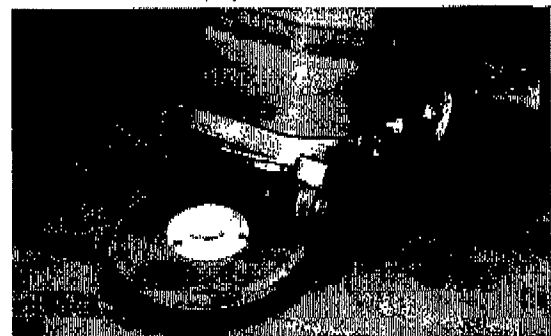

FIG. 12
4. Place the pad driver/brush on the floor in front of the scrub head (Figure 12).
5. Tilt the machine back on its rear wheels and center the scrub head down over the pad driver/brush (Figure 12).